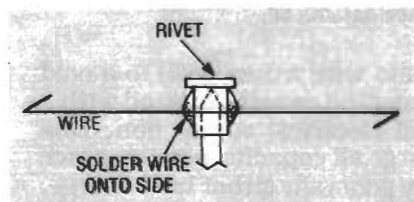

FIG. 15—THIS ION-MOTOR ROTOR, when placed on top of the sewing-needle emitter, will spin in a circle.
- You can make a rotor for an ion motor, using a light pivot made from a rivet with thin, stiff wire (like piano wire) attached, as shown in Fig. 15. The rotor must be balanced on top of the sewing-needle emitter (much as in a compass) used for the doubler shown in Fig. 8. (We ran a similar construction project in **Radio-Electronics**, February, 1991.)